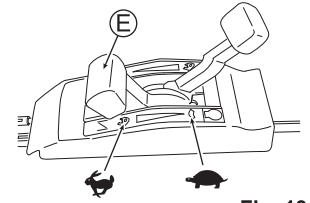

Fig. 13
- Confirm that there is no person behind you when pulling Starter knob (W).
- Securely grab Starter knob (W) when you pull it.
- Return Starter knob (W) slowly.
- 5 Warm up the machine before use. After the engine has warmed up, start mowing by setting Throttle lever (E) to "S". (See Fig. 13)